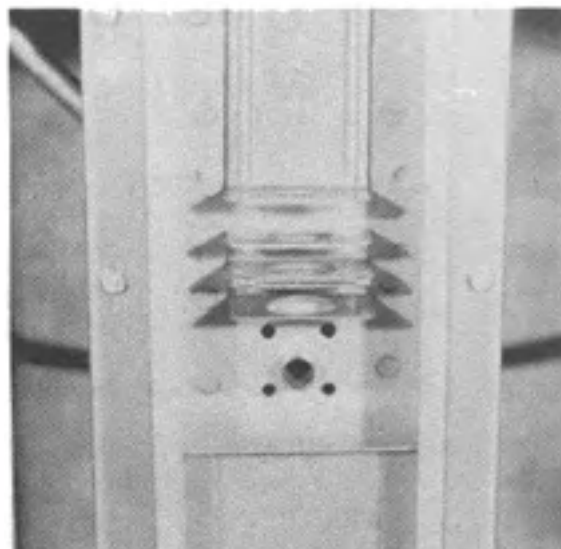

FIG. 34
20. Replace the four (4) screws securing vent assembly to rear of fryer. **NOTE:** Vent tube must protrude through vent assembly at least 1/2" (See Figure 34).
21. Connect the two (2) solenoid wires to harness wires.